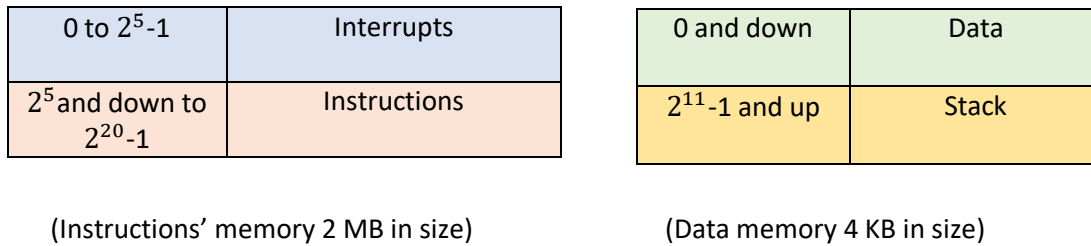

Figure.1 Memory Units
The program counter (PC) spans the instructions memory address space that has a total size of 2 Megabytes. Each memory address has a 16-bit width (i.e., is word addressable). The instructions memory starts with the interrupts area (the very first address space from [0 down to 2^5-1]), followed by the instructions area (starting from [2^5 and down to 2^{20}]) as shown in Figure.1. By default, the PC is initialized with a value of (2^5) where the program code starts.
The data memory starts with the data area (the very first address space and down), followed by the stack area (starting from [$2^{11} - 1$ and up]) as shown in Figure.1. By default, the stack pointer (SP) pointer points to the top of the stack (the next free address available in the stack), and is initialized by a value of ($2^{11}-1$).